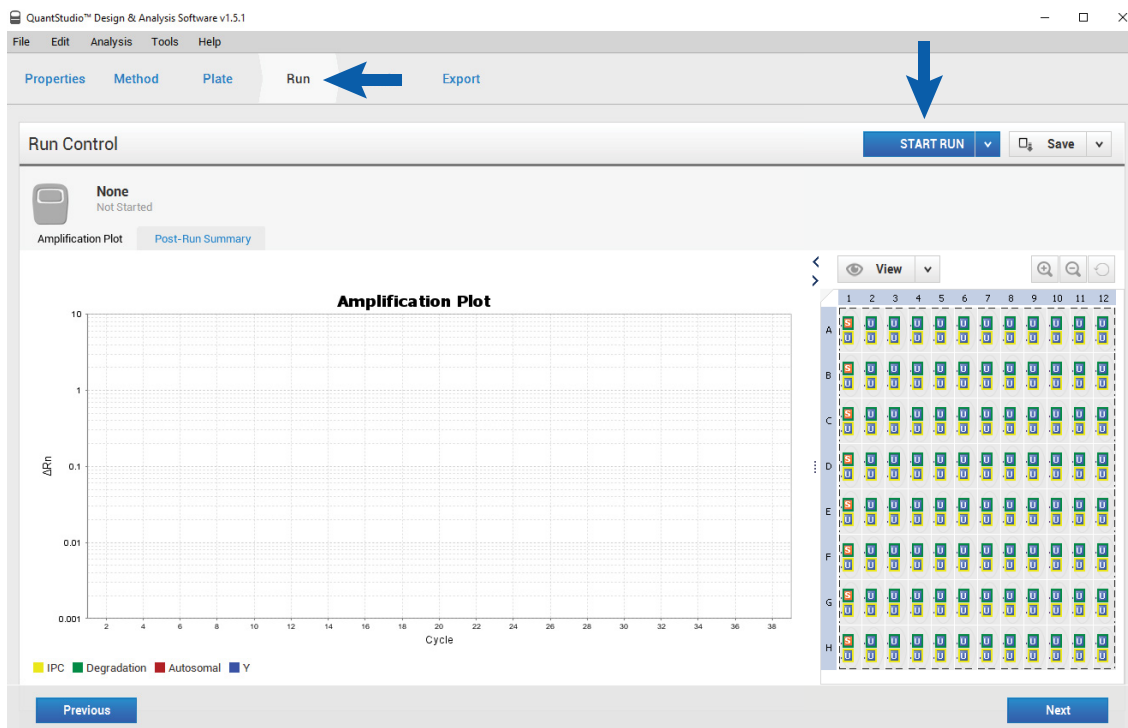

Figure 51. The 'Run' tab.
8. Navigate to the 'Run' tab. Select **Start Run** (Figure 51). The software will prompt you to save your experiment as an .eds file. Run time is approximately 1 hour.